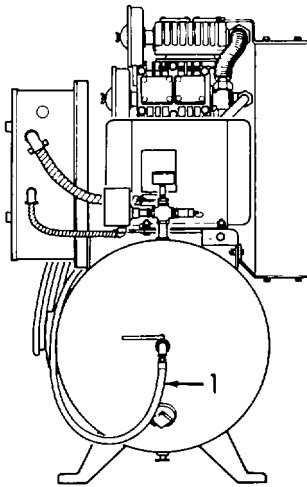

Figure 3-41. Flexible Hose, Removal.
- a. *Removal.* Disconnect flexible hose (1, Figure 3-41).